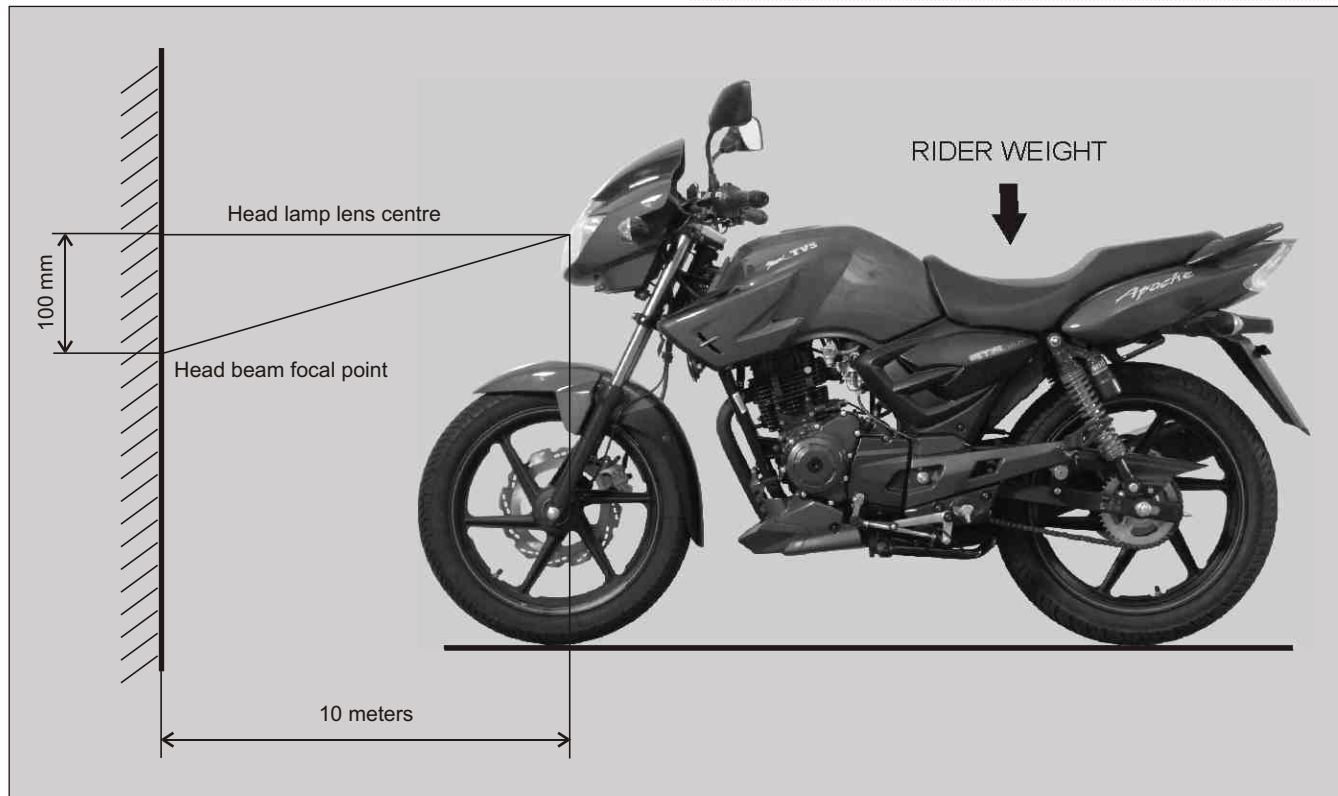

Fig. 2.55
- Keeping the bike in a straight line, sit on the bike to aim the headlamp beam vertically. Focus headlamp high beam on a vertical screen, which is at a distance of 10 meters from the headlamp's centre point. Adjust headlamp assembly such that the focal point of high beam on the screen is 100 mm lower than the headlamp beam centre. (Fig. 2.55)